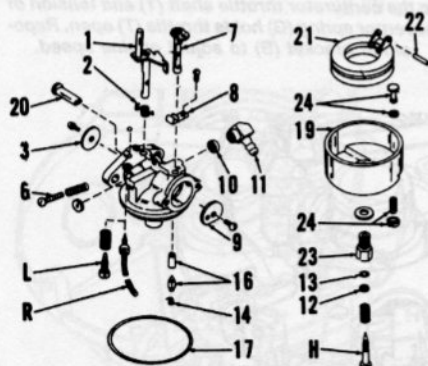

Fig. TP2-6—Exploded view of typical Tecumseh float type carburetor used on some models.
Tecumseh Float Type Carburetor. Refer to Fig. TP2-6 for identification and exploded view of Tecumseh float type carburetor.
On some models, the fuel inlet fitting (11—Fig. TP2-6) is pressed into body. When installing new fitting, start fitting into bore, then apply a light coat of Loctite 271 sealant to the shank and press fitting into position.
On early models, fuel is drawn in through a check valve in the fuel inlet fitting (11—Fig. TP2-6). The outlet check valve (10) is pressed into bore behind the inlet fitting. The inlet fitting (11) is removed and installed in normal manner. To renew the outlet check valve (10), drill into the outlet check valve with a $\frac{9}{64}$ inch drill to a depth of $\frac{1}{8}$ inch (3.78 mm). Do not drill into carburetor body. Thread an 8-32 tap into the outlet valve and pull valve from the carburetor body. Press new outlet valve into carburetor body until face of valve is flush with base of the fuel chamber.